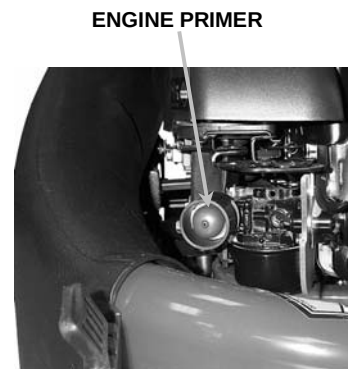

FIGURE 2.4
2. Push primer bulb three times to start a cold engine. **NOTE: Primer should not be required to restart a warm engine.** See Figure 2.4